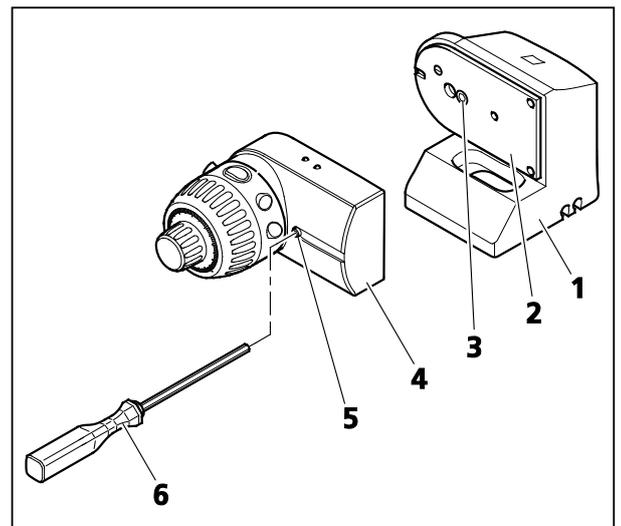

Fig. 10 Mounting the MaRC on the table-top base
MaRC is a component used to control the focus motor, and may be mounted either directly on the focusing drive (Fig. 9/1) or as a table-top version with table-top base (Fig. 10/1) independently of the microscope.
- Secure the mounting plate (Fig. 10/2) with screw (Fig. 10/3) on the table-top base (Fig. 10/1). The screw must be inserted into the right hole of the mounting plate.
- Screw the MaRC (Fig. 10/4) to the attached mounting plate with a socket head screw (SW 3; Fig. 10/5) using a ball-head screwdriver (Fig. 10/6).